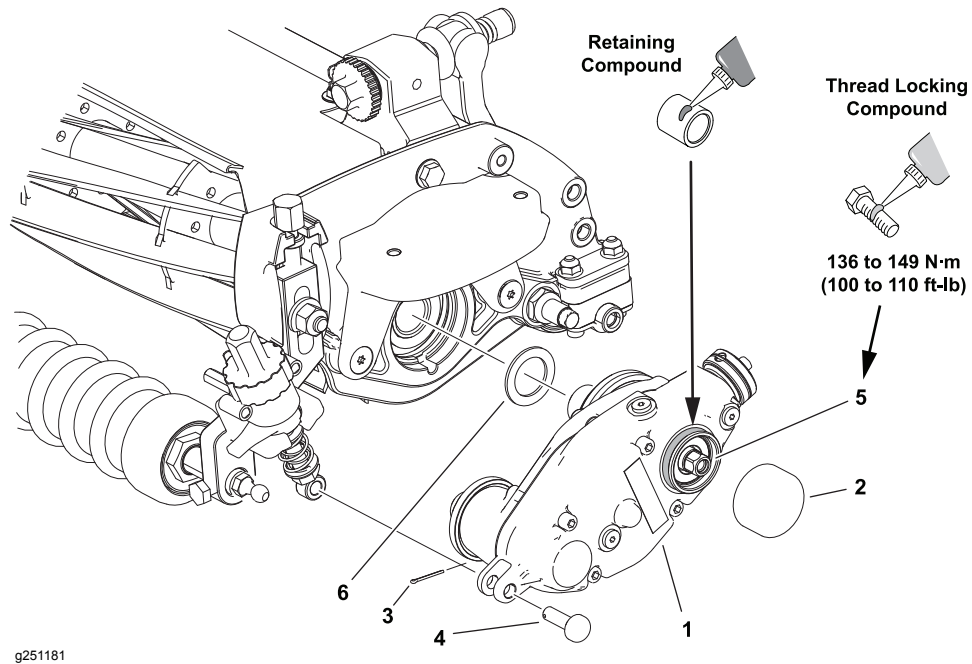

Figure 2
D. Retrieve the shim (item 6 in Figure 2).
- A. Fit the shim (item 6 in Figure 2) over the input shaft.